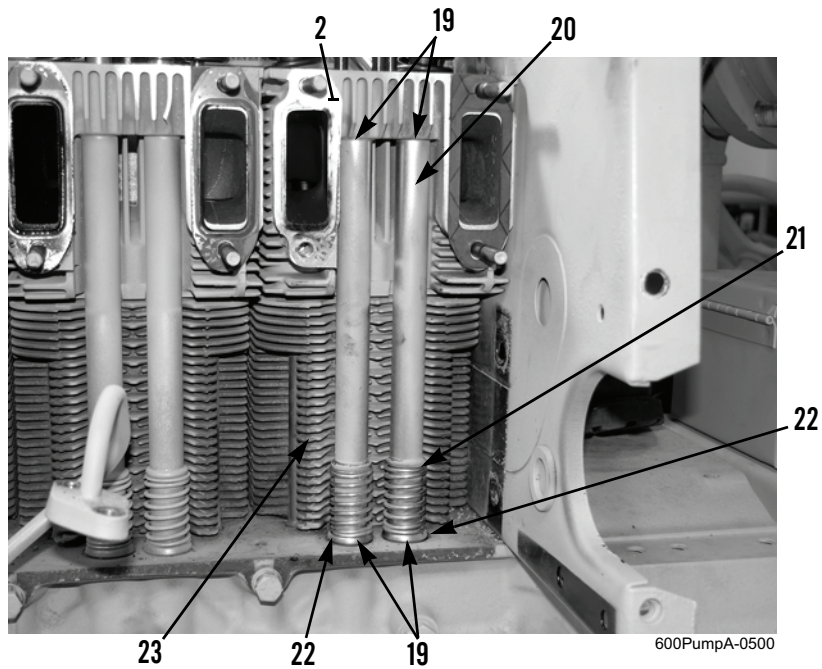
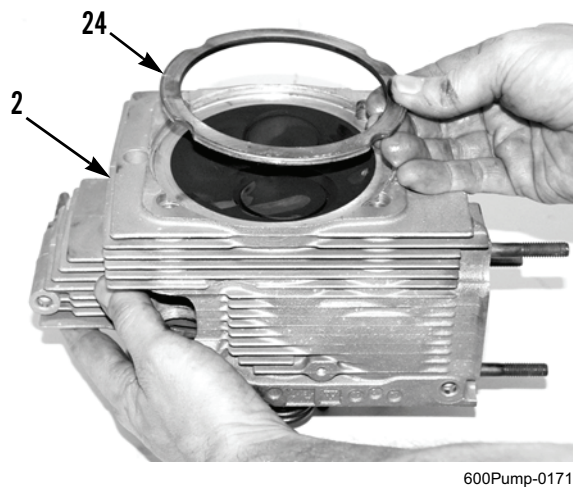
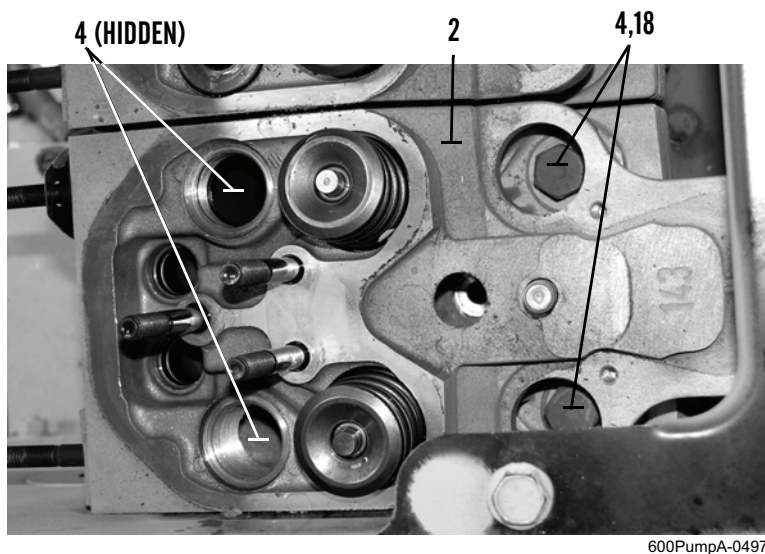

Figure 9. Cover Tubes.
Figure 10. Cylinder Head Gasket.
Figure 12. Cylinder Head Bolts and Washers.
10. Raise cylinder head (Figure 9, Item 2) slightly and remove two cover tubes (Figure 9, Item 20), compression springs (Figure 9, Item 21), retainers (Figure 9, Item 22), and four washers (Figure 9, Item 19).
11. Remove cylinder head (Figure 10, Item 2) and cylinder head gasket (Figure 10, Item 24) from cylinder (Figure 9, Item 23) and engine block.
3. Install cylinder head (Figure 12, Item 2), cylinder head gasket (Figure 10, Item 24), two washers (Figure 12, Item 18), and four bolts (Figure 12, Item 4) on cylinder (Figure 9, Item 23) and engine block. Do not tighten bolts.